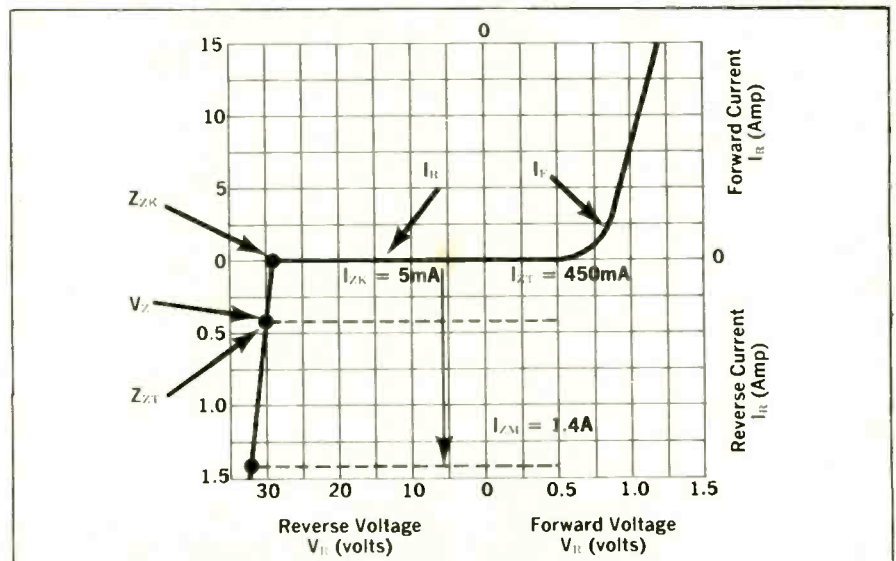

Fig. 1—Characteristic curve of a typical zener diode.
■ Basically, the silicon zener diode is a simple P-N junction device (refer to the first article appearing on page 50 of the June 1971 issue of *ELECTRONIC TECHNICIAN/DEALER*) that is connected into a circuit in such a manner that it is reverse biased. All P-N junction diodes exhibit a very low forward-bias resistance and a very high reverse-bias resistance. However, all reverse-biased P-N junctions have a critical voltage point or avalanche phenomena at which the resistance becomes quite low and reverse current through the diode increases very rapidly. This voltage phenomena is referred to as the Zener Point or Zener Kneec. A typical zener diode characteristic curve is shown in Fig. 1.